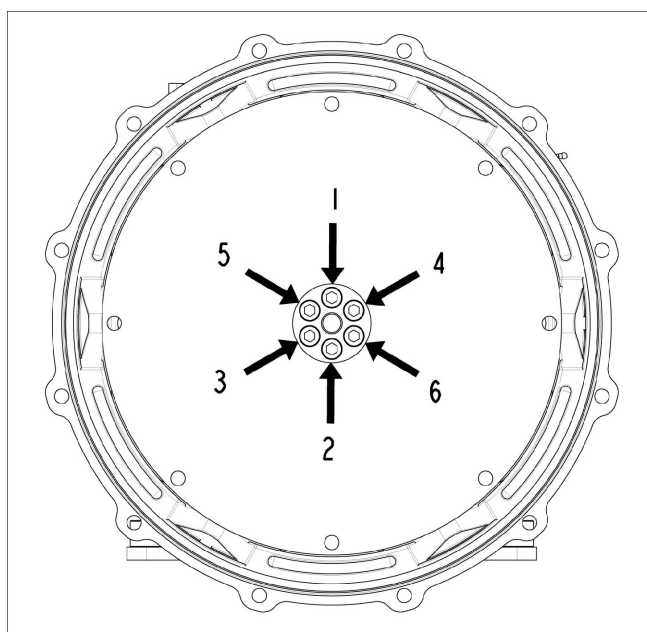

FIGURE 22. FIXING SEQUENCE TO HUB
4. If required, tighten the coupling disc bolts in the sequence shown in Figure 22 on page 39 . See Chapter 9 on page 63 for tightening torque.